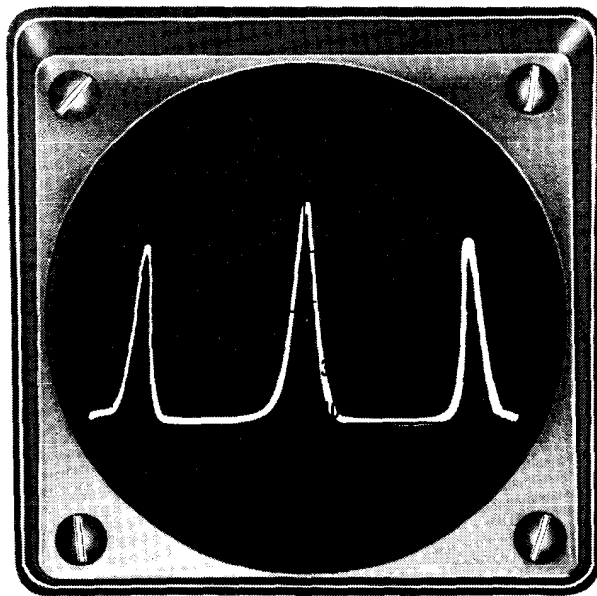

Figure 12
After the above adjustment, if there appears to be a considerable amount of ripple on both sides of the pip, or there are side pips such as shown in Figure 12 (with an unmodulated input signal), a possible cause is the neon lamp voltage regulator (NE-83-A). Refer to Pictorial 5, fold-out from Page 21, and interchange the two leads from lamp FC.
- () Adjust the VARIABLE SWEEP WIDTH control in a counterclockwise direction and observe that the two side tone pips will move towards the edges of the screen. Adjust this control until both side tone pips are over the 5 marks on the base line as shown in Figure 12. Use the PIP CENTER control to keep the carrier signal at the center of the screen.